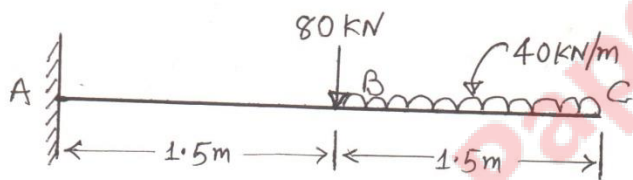

fig.3 Q.3(a) OR
- (a) Draw Shear force and Bending moment diagram for a Beam as shown in fig3 **03**